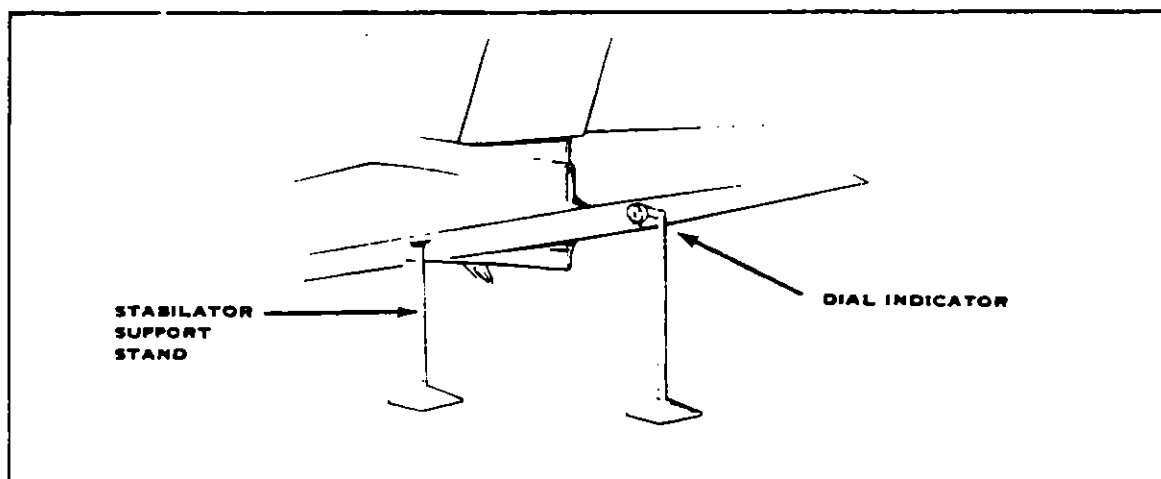

Figure 4-10a. Checking Stabilator Free Play
b. **Stabilator Trim Tab:** Set the stabilator trim tab in neutral position. This neutral position is determined with the airplane properly rigged per instructions given in this section of the service manual; the control wheel positioned 7.88 inches from the instrument panel, and the trim indicator at its neutral position. Obtain a straightedge long enough to extend from the ground up to a few inches above the trim tab trailing edge. Place the straightedge next to the trim tab inboard (center) trailing edge, and grasping the tab, gently move it up and down. mark the limits of tab free play on the straightedge. The overall travel (free play) must not exceed .076 of an inch. The use of a dial indicator and fixed stand is recommended, refer to Figure 4-10a.